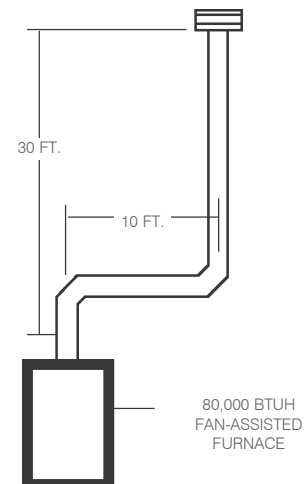

Figure 5
A typical example of use of the Tables for Single-Appliance Venting is shown in Figure 5. The furnace has an input rating of 80,000 BTU per hour and is fan-assisted. Total Height (H) of the vent is 30 feet with a 10-foot Total Lateral Length (L). The entire system is Type B gas vent.